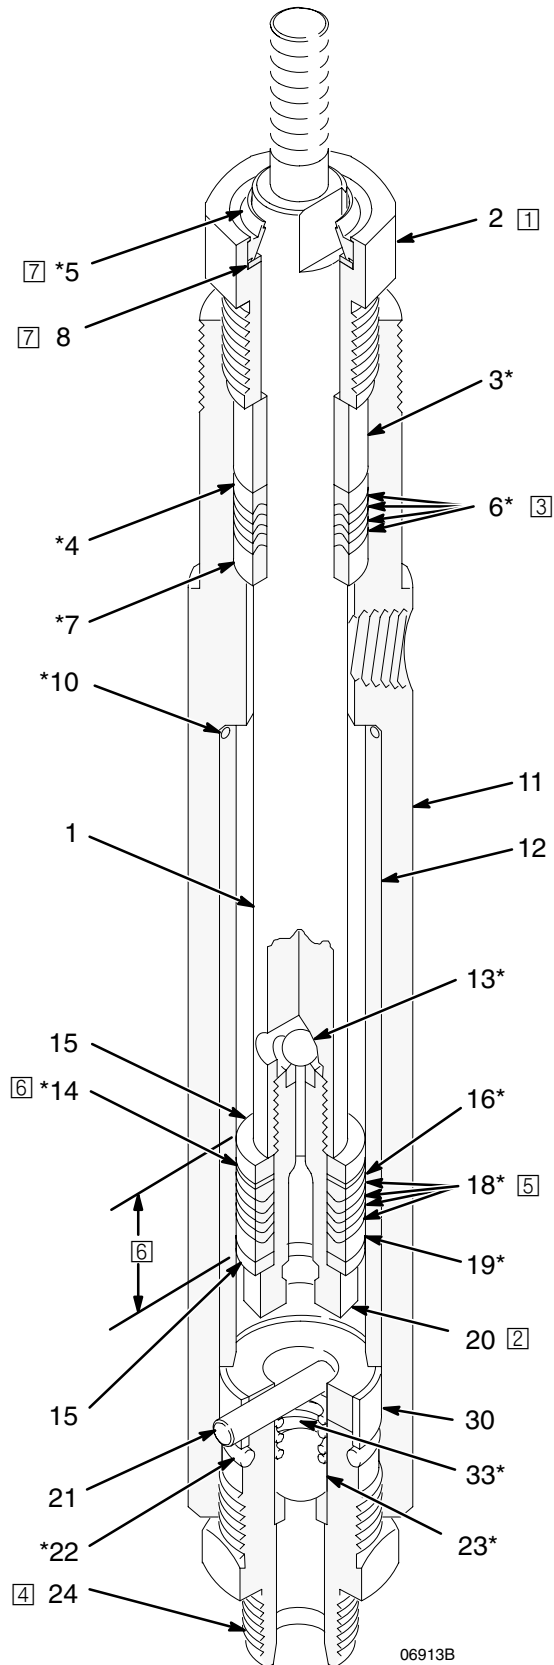

Fig. 1
- Reference numbers and letters in parentheses in the text refer to the callouts in Figure 1 and the parts drawing.
4. Unscrew the displacement rod (1) from the air motor connecting rod.
5. Screw the intake valve housing (24) out of the cylinder (11). See Fig. 1. Disassemble and clean the valve parts. Inspect the parts for damage or wear. If the seat in the valve housing is chipped or worn, replace the housing (24).
6. Loosen the packing nut (2).
7. Push down on the displacement rod (1) until you can grasp the piston stud (20). Pull the displacement rod out the bottom of the cylinder (11).
9. Unscrew the piston stud (20) from the displacement rod (1). Remove the ball (13), shims (14), backup washers (15), glands (16 and 19), and v-packings (18). Clean all parts and inspect for damage. If the seat on the piston stud (20) is nicked or worn, replace it.
10. Remove the packing nut/wet-cup (2).
11. **239388 Pump Model only:** Remove the seal guard kit (5) and washer (8) from the packing nut (2).
12. Remove the bearing (3), glands (4 and 7), and v-packings (6) from the throat of the pump cylinder (11). Clean all parts and inspect for damage.
14. One at a time, place a male gland (7*), four PTFE v-packings (6*), a female gland (4*), and the bearing (3*) in the throat of the cylinder (11). *Be sure the lips of the v-packings face down in the throat.* See Fig. 1.
15. **239388 Pump Model only:** Install the washer (8) and seal guard kit (5) into the packing nut (2). Pack the packing nut inside and outside with Vaseline®. Use Vaseline® brand petroleum jelly only.
16. Loosely install the packing nut (2).
17. One at a time, place a backup washer (15), a female gland (19*), four PTFE v-packings (18*), a male gland (16*), and a backup washer (15) on the piston stud (20). *Be sure the lips of the v-packings face up on the piston.* See Fig. 1.
19. Place the ball (13*) on the piston stud (20). Apply liquid thread sealant to the piston threads and screw the piston assembly into the displacement rod (1), torquing it to 200 in-lb (23 N.m).
20. Lubricate the displacement rod (1), and guide it through the bottom of the pump cylinder (11) and carefully through the throat packings.
21. Install the o-ring (22*) on the intake valve housing (24).
23. Slip the o-ring retainer (30) onto the intake housing and align the holes in the two parts.
25. Install the ball stop pin (21) through the o-ring retainer and intake valve housing (24), and screw the housing into the pump cylinder (11). Torque the housing to 50–60 ft-lb (70–80 N•m).
26. **All Pump Models except 239388:** Torque the packing nut (2) to 50–60 ft-lb (70–80 N•m).